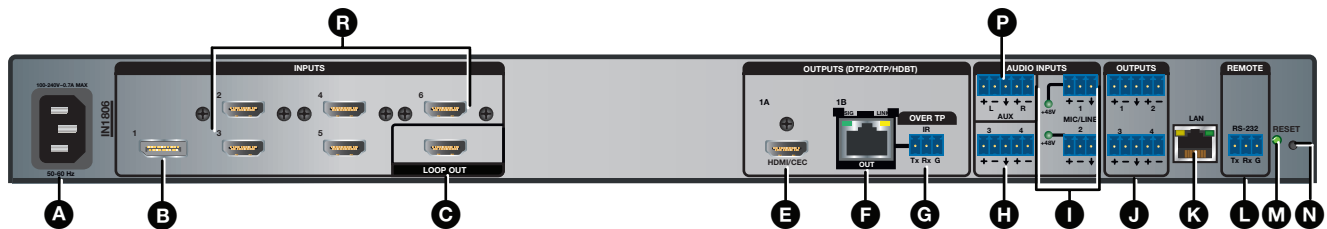
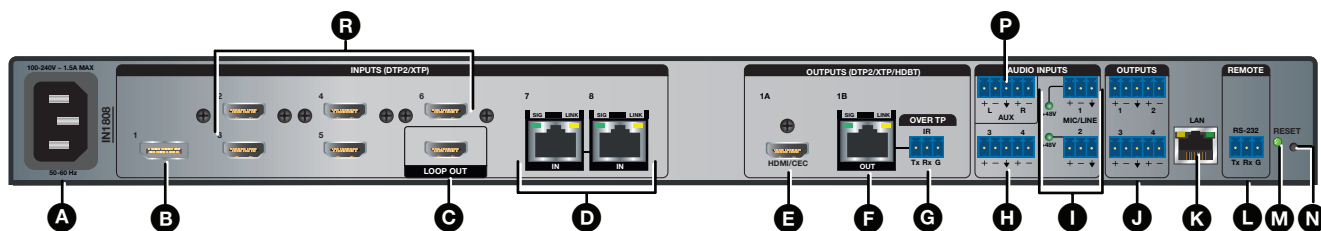
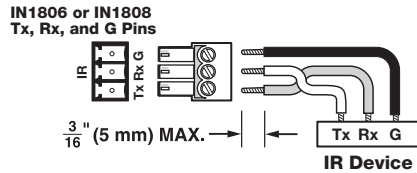
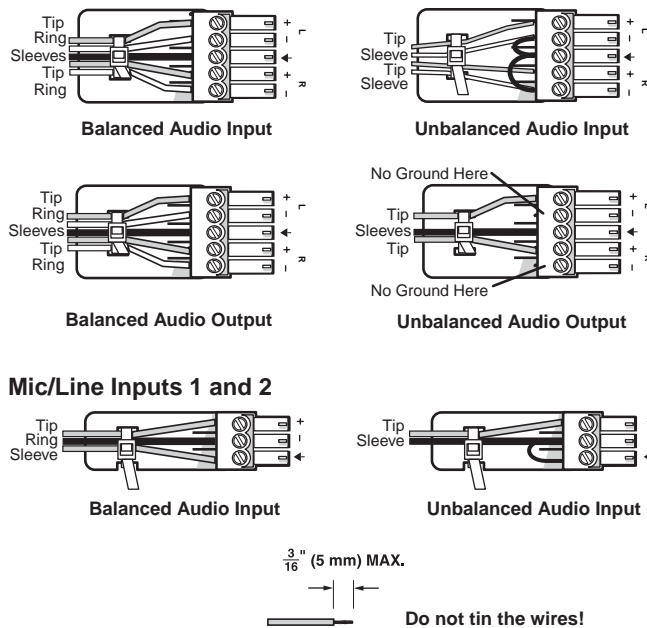

Figure 3. IN1806 Rear Panel
Figure 4. IN1808 Base Model Rear Panel
Figure 7. Wiring the Over TP IR Connector
Figure 10. Analog Audio Wiring
Figures 3 through 6 show the rear panels of the IN1806 and the three IN1808 Series models (see the legend on the next page).
- A AC power connector** — Connect a standard IEC power cord (provided) from a 100 to 240 VAC, 50-60 Hz power source to this connector (see figure 3 on page 12 and figures 4 through 6 on the previous page).
- B DisplayPort input connector (input 1)** — Connect a DisplayPort source to this female DP connector (see figure 3 and figures 4 through 6).
- C HDMI (with CEC) Loop Out connector** — Connect a monitor to this buffered loop out connector (see figure 3 and figures 4 through 6). This output can be tied to any input via SIS (see SIS Configuration and Control starting on page 52) or PCS (see the *IN1806 and IN1808 Series Help File*).
- D DTP2/XTP input connectors (inputs 7 and 8)** — (IN1808 Series only) Connect one or two DTP transmitters to the DTP2/XTP RJ-45 input connectors 7 and 8 (see figures 4 through 6 on the previous page). These connectors also allow for remote powering of DTP transmitters.
- E HDMI (with CEC) output connector (output 1A)** — Connect an HDMI or DVI (with an appropriate adapter) output device to this HDMI output connector for HDMI video with embedded audio (see figure 3 and figures 4 through 6). This connector and the DTP2/XTP/HDBT output connector are mirrored, meaning that they display the same image.
- F DTP2/XTP/HDBT output connector (output 1B)** — This connector and the HDMI output connector (1A) are mirrored, meaning that they display the same image (see figure 3 on page 12 and figures 4 through 6 on page 13).
- G Over TP IR pass-through connector** — To transmit or receive infrared data to and from a sink connected to a DTP or DTP2 receiver, XTP matrix, or HDBaseT display, connect a control device to the 3-pole Over TP IR captive screw port (see figure 3 on page 12 and figures 4 through 6 on page 13). Figure 7 on the next page shows how to wire the connector.
- H Analog audio line input connectors 3 and 4** — Connect line level analog audio sources to audio input connectors 3 and 4 on the 5-pole captive screw connector for balanced or unbalanced stereo audio (see figure 3 and figures 4 through 6). Connectors are included with the unit, but the audio cable is not (see figure 10 on page 20 for wiring).
- K LAN connector (IN1806 and IN1808 base model only)** — To control the IN1806 and the IN1808 base model through Ethernet, connect a LAN or WAN to this RJ-45 LAN connector (see figure 3 on page 12 and figures 4 through 6 on page 13). Ethernet control allows you to configure and control the scaler from a remote location via SIS commands, the PCS software, or the embedded web pages.
- L Remote RS-232 connector** — Connect a host device to this 3-pole captive screw connector for RS-232 serial control of the scaler (see figure 3 and figures 4 through 6). The default baud rate is 9600.
- M Reset LED** — This green LED remains lit while the IN1806 and IN1808 Series has power (see figure 3 and figures 4 through 6). While the **Reset** button (see **N**, below) is being pressed and held, this LED blinks every 3 seconds to indicate the level of reset initiated if the button is released at that point (see Reset Modes on page 47 for more information).
- O Amplified audio output connector** (see figures 4 through 6) —
- P Aux line audio input connector** — Connect a line level analog audio source to this 5-pole captive screw connector for balanced or unbalanced mono or stereo audio (see figure 3 on page 12 and figures 4 through 6 on page 13). The Aux input is shared and can be associated with one or more video inputs (see Analog Audio Connections on page 19).
TIP: Use Extron HDMI LockIt Lacing Brackets to secure HDMI cables to the device (see figure 10 on page 20).
Wire the audio input and output connectors as shown in figure 10 on the next page. Use the supplied tie wrap to strap the audio cable to the extended tail of the connector.